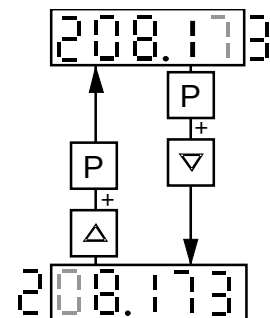

Fig. 7.1 Shifting the PMU display for parameter values with more than 4 digits
5. Manual shifting If the 5 existing digits on the 7-segment display are not sufficient to display a parameter value, the display first shows just 5 digits (see Fig. 7.1). To indicate that digits are concealed to the right or left of this "window", the right-hand or left-hand digit flashes. By pressing the <P>+<Down> or <P>+<Up> key, you can shift the window over the remaining digits of the parameter value.